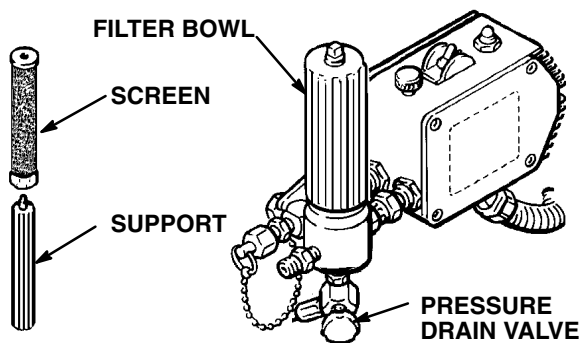

Fig 12–1
2. Remove the filter bowl and screen; see manual 307–273. Clean the screen. Install the bowl (only) to flush it. Close the pressure drain valve. See Fig 12–1.
To reduce the risk of static sparking and splashing when flushing, always remove the spray tip from the gun, and hold a metal part of the gun firmly to the side of a grounded metal pail. See Fig 12–2.